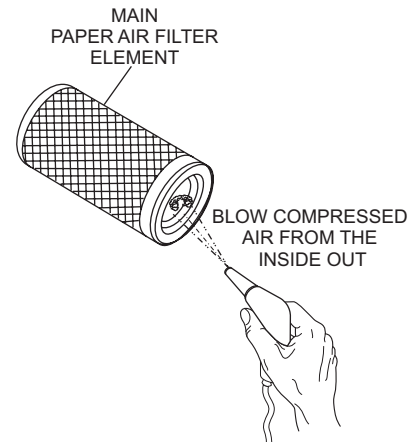

Figure 43. Cleaning Paper Air Filter Element
5. To clean the main element (paper air filter) as referenced in (Figure 43), tap the filter element several times on a hard surface to remove dirt, or blow compressed air (not to exceed 30 psi (207 kPa, 2.1 kgf/cm²) through the filter element from the inside out.